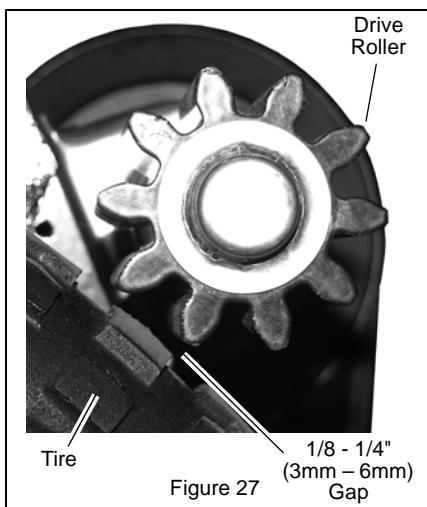

Figure 27
5. Push the wheel drive frame back until drive roller gap at wheels is 1/8" – 1/4" (3mm – 6mm). See Figure 27.
8. Turn fine adjustment knob clockwise to adjust drive roller gap at wheels to be 1/8" – 1/4" (3mm – 6mm). See Figure 27.